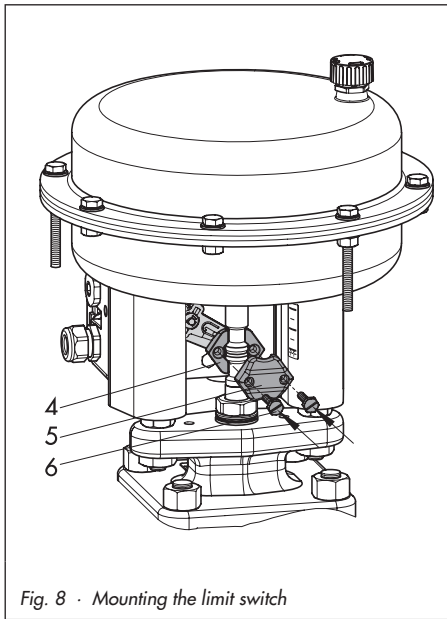

Fig. 8 · Mounting the limit switch
**Pneumatic actuator with Type 3776 Limit Switch (Fig. 8)**
2. Position mating clamp and loosely fasten the clamps with screws (6).